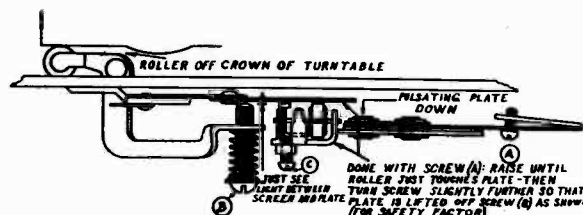

FIG. 7
1. Rotate turntable so that the crown on the cam under the turntable is OFF roller of pulsating lever. (See Figure 7.)
2. Move tone arm in towards record until the rubber roller and contact is at the outer edge of pulsating plate. See Figure 7.
3. Turn screw (A) Figure 7 on trip arm until rubber roller just touches pulsating plate, then turn screw (A) slightly further so that the plate moves slightly.